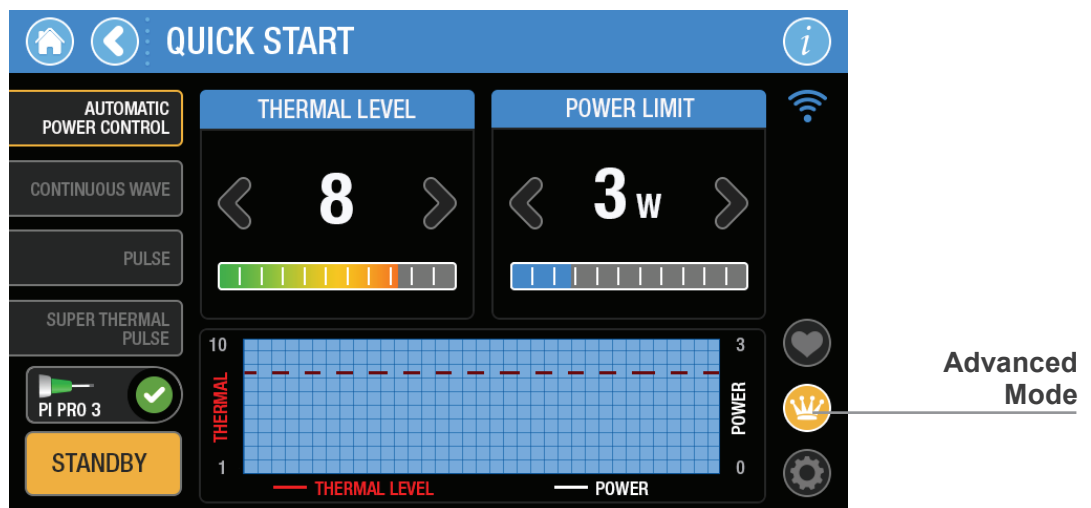

Figure 8.7
- Automatic Power Control (APC™) (Figure 8.7).
Epic Pro has a treatment mode of operation called Automatic Power Control (APC) in which the laser, in continuous wave mode, converts light energy to thermal power at the tip (Figure 8.7). The cutting effect in contact mode with a pre-initiated Tip is achieved not by the direct action of laser power, but rather by the thermo-mechanical action of a "hot tip." Therefore, Tip temperature is a very important parameter and is adjusted automatically to maintain a uniform temperature, resulting in constant and reliable cutting, independent of speed of movement, tissue type, etc.